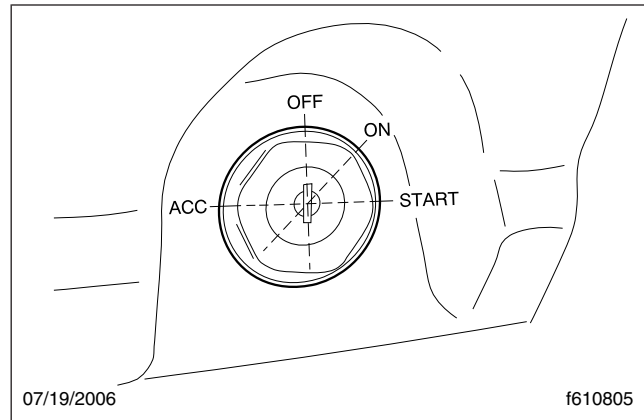

Fig. 9.1, Ignition Switch
4. Turn the ignition switch to the ON position and allow the gauge sweep to complete. See **Fig. 9.1**. The audible alert will sound for approximately four seconds.